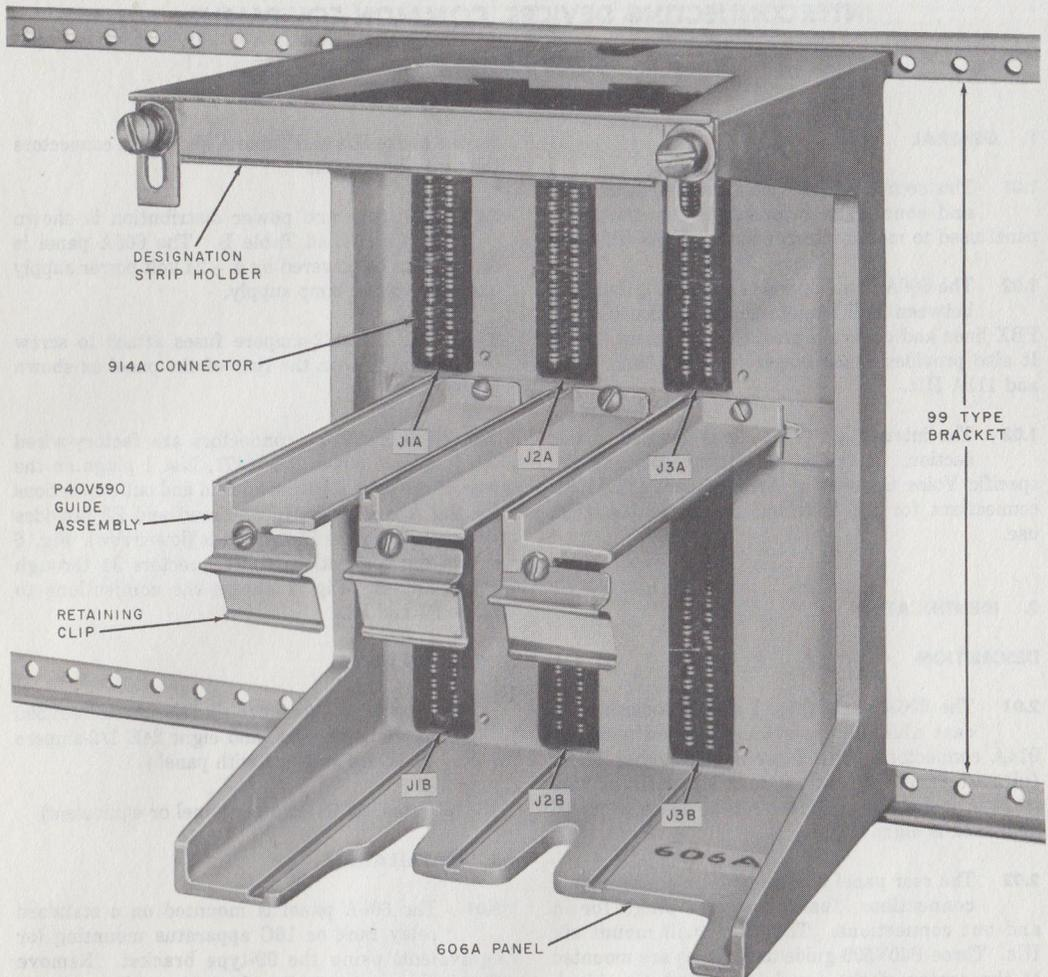

Fig. 1—606A Panel (Front View)
**2.01** The 606A panel (Fig. 1 and 2) consists of a cast aluminum carrier equipped with six 914A connectors. The 6- by 8-inch carrier has a full rear panel mounted on four standoffs making it 9-1/4 inches deep. The vertical space required on a rack is eight inches.